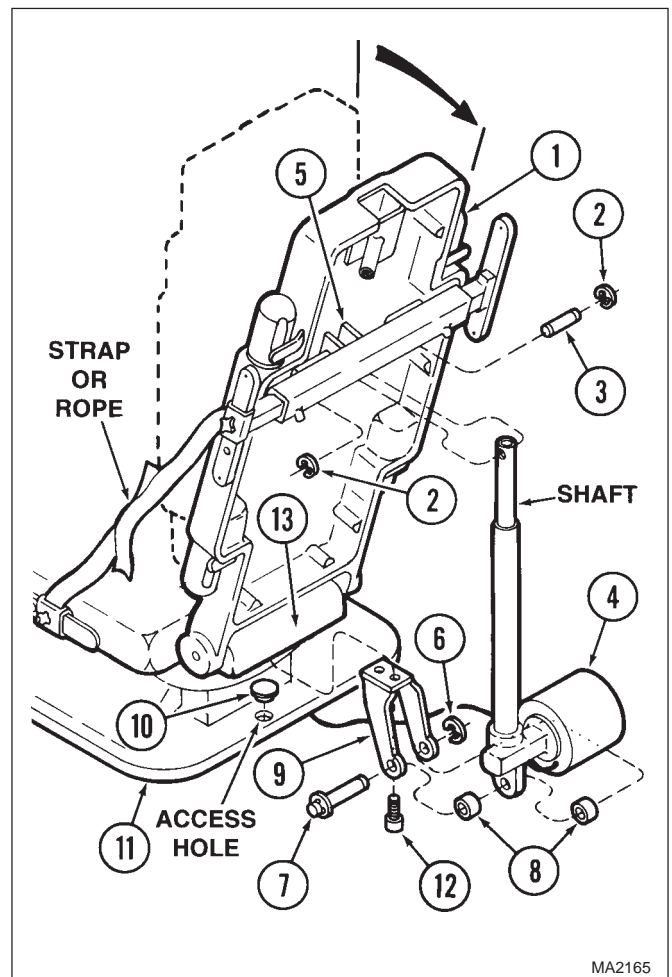

Figure 4-42. Back Actuator Connection
- (41) Install back clevis (9, Figure 4-42) on seat casting (13) and secure with two screws (12).
- (42) Install hole plug (10) in access hole in trendelenburg plate (11).
- (43) Install back actuator (4) on back clevis (9) and secure with two plastic spacers (8), clevis pin (7), and two E-rings (6).